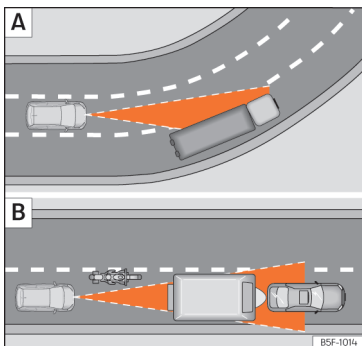

Fig. 105 [A] Vehicle on a bend. [B] Motorcyclist ahead, out of range of the radar sensor.
The ACC may not detect the vehicle in front on a curve, or may regulate the distance from vehicles in other lanes >>> Fig. 105 [A].
- Vehicles that are not aligned while driving or that are outside the sensor's detection area, such as motorcycles >>> Fig. 105 [B].